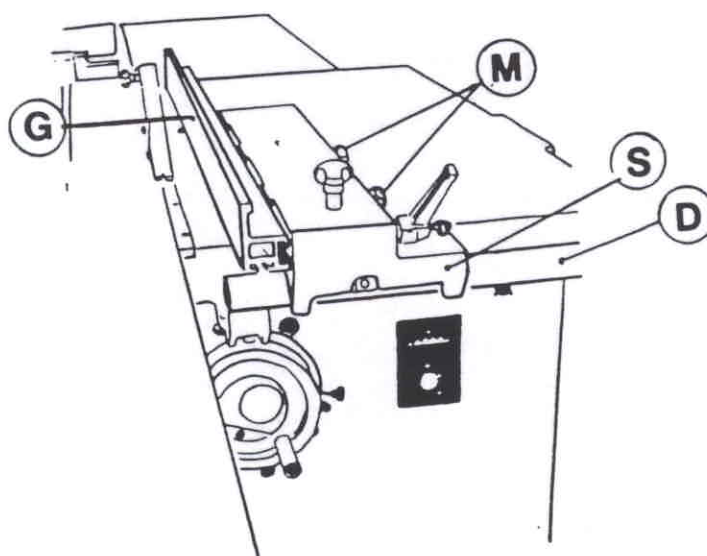

Fig.12
- Fit support (S) to rod (D fig.12)
- Fit fence (G), adjust the length, then fasten it by two grips (M fig.12)